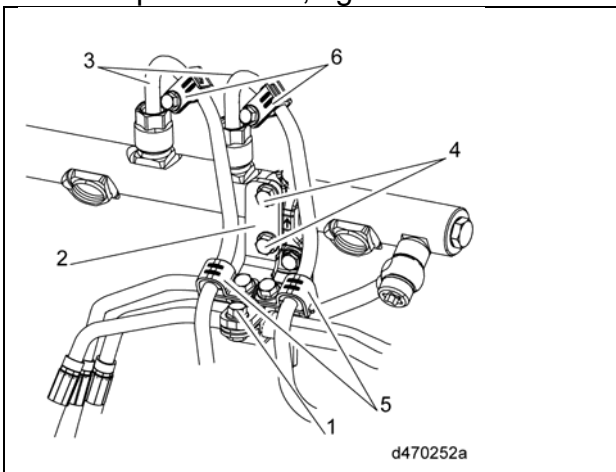

Figure 8 – Two-Filter System with KM59 GEN1 with Bolted Vibration Damper
- For engines with **Two-filter fuel system**, inspect and verify the mounting bracket (2) and its attaching bolts (4), the two P-clips (5), and the high pressure fuel feed lines (3) with two permanent vibration dampers or bolted vibration dampers (6) are not missing or loose. Do not attempt to loosen, tighten or otherwise disturb any of the parts. See Figures 8 and 9.